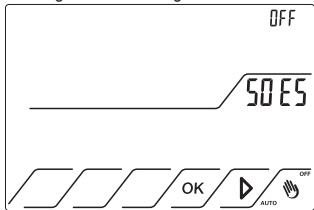

Fig.43
11.3.2 Press  up to position on **SO ES** that will start to flashing. The status is OFF. Fig 43